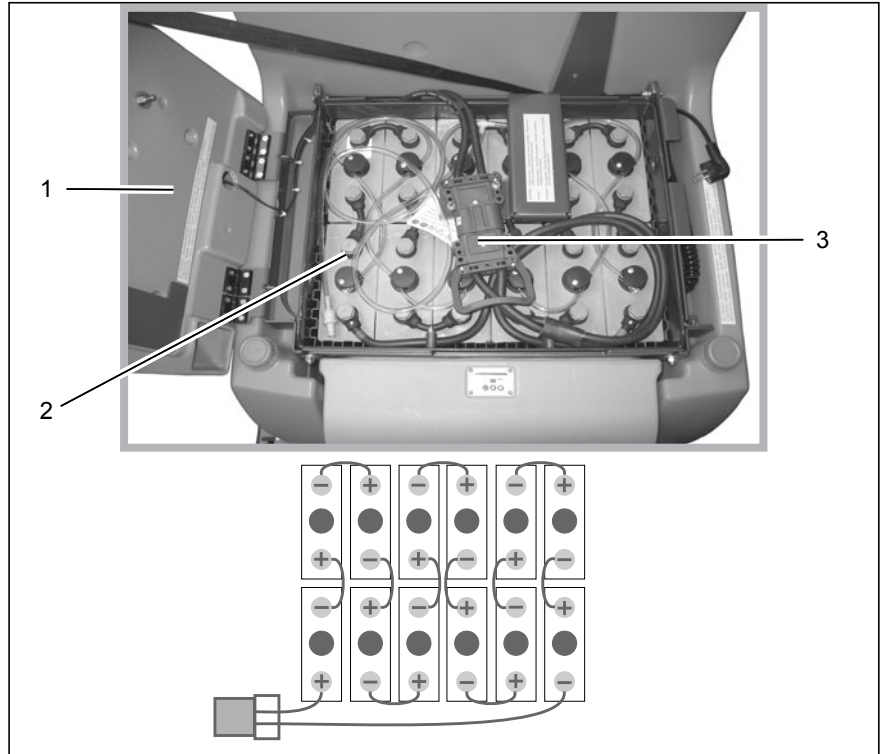

Fig.4
2. Open the seat console (Fig. 4/1).
3. Install the battery (Fig. 4/2) in the battery trough accordance with illustration.
4. Check the battery plug (Fig. 4/3), refer to Section 2.2.6.